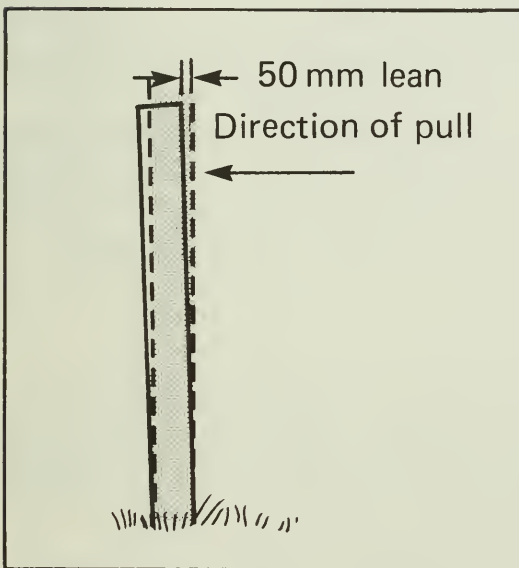

Fig. 18 Proper placement of end posts.
1. Select a straight, 244-cm long post of proper diameter. Mark the exact location where it is to be placed and auger a pilot hole 90 cm deep and smaller in diameter than the post. Auger this hole so that the top of the post will lean 50 mm off vertical opposite the direction of pull of the line wires (Fig. 18). Posts can be driven in some soils without augering pilot holes.